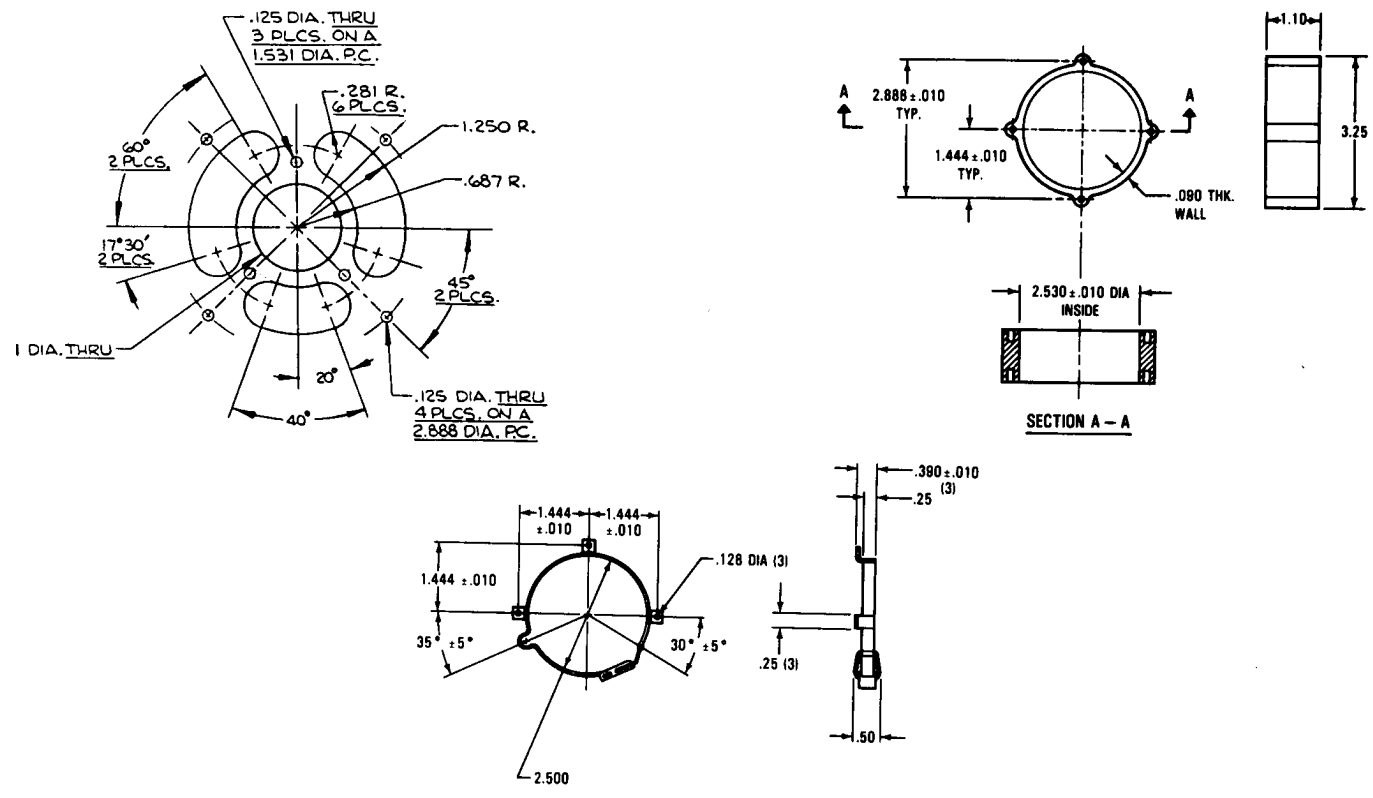

Figure 1 - Mounting Plate, Chimney SK-1906 and Clamp SK-1916, for SK-1900 Socket Assembly
**MOUNTING & SOCKETING** - The tube may be mounted in any position. If it is to be operated in an inverted (anode down) or horizontal position the SK-1916 clamp assembly should be used for reliable retention. The SK-1906 chimney is provided with four 4-40 tapped holes at one end for chassis mounting and four more 4-40 tapped holes at the other end for optional SK-1916 mounting. The combination of the SK-1906 with the optional SK-1916 clamp makes a rigid mounting assembly for the 3CX800A7. Outline drawings of the SK-1906 air chimney and the clamp assembly are shown in Fig.1.
**COOLING** - Forced-air cooling must be provided to maintain the anode core and seal temperatures at a safe operating temperature. Cooling data are shown for incoming cooling air at 25°C and 50°C, and represent the minimum requirements to limit tube temperatures to 225°C. The pressure drop figures are approximate and are for the mounting-plate (shown in Fig. 1), socket, tube and chimney combination as would be the case with pressurized-compartment mounting, where air is required to pass through the chassis slots and the anode cooler to the outside of the cabinet.